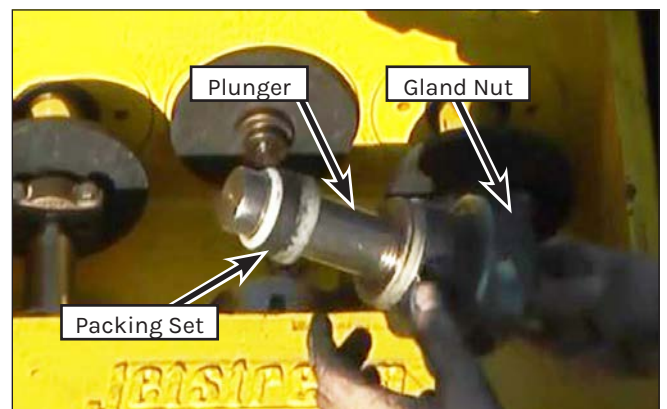

Figure 88: Packing removal.
9. Remove the packing set (Figure 88).